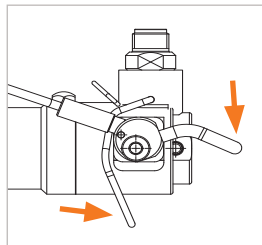

Figure 7
▶ Fold the actuation bail (Pos. 6) downwards and pull at the locking device (Pos. 8) at the same time (Figure 7). The flexible wire rope will fold upwards and the clamping jaws will open.